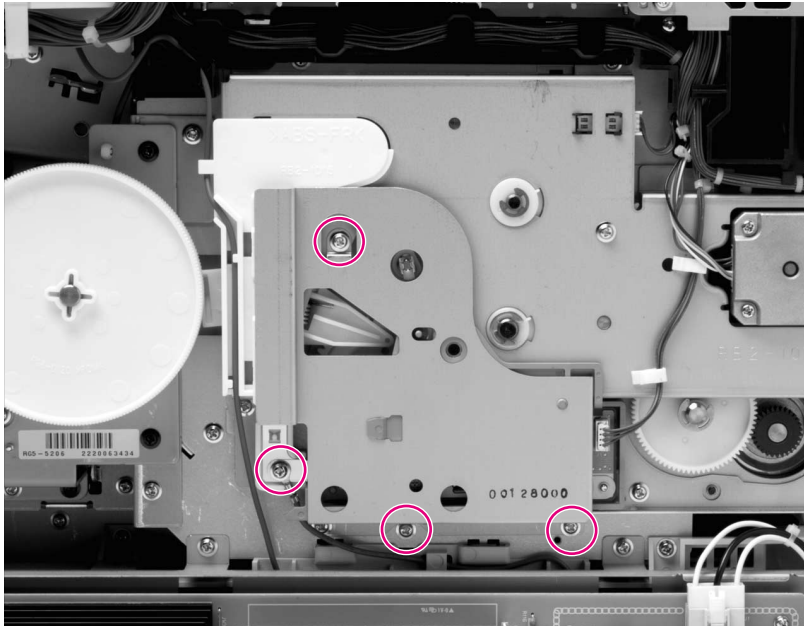

Figure 6-64 Cartridge carousel replacement - continuous toner level sensor assembly (2 of 6)
- 13 Remove the continuous toner level sensor assembly (see figure 6-64).